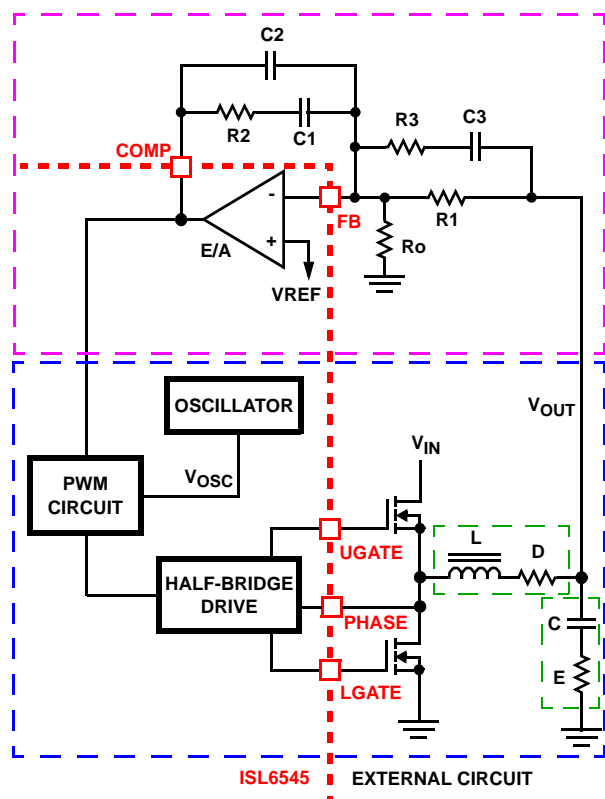

FIGURE 9. VOLTAGE-MODE BUCK CONVERTER COMPENSATION DESIGN
This section highlights the design consideration for a voltage-mode controller requiring external compensation. To address a broad range of applications, a type-3 feedback network is recommended, as shown in the top part of Figure 9.
Figure 9 also highlights the voltage-mode control loop for a synchronous-rectified buck converter, applicable to the ISL6545 circuit. The output voltage ( $V_{OUT}$ ) is regulated to the reference voltage,  $V_{REF}$ . The error amplifier output (COMP pin voltage) is compared with the oscillator (OSC) modified sawtooth wave to provide a pulse-width modulated wave with an amplitude of  $V_{IN}$  at the PHASE node. The PWM wave is smoothed by the output filter (L and C). The output filter capacitor bank's equivalent series resistance is represented by the series resistor E.
The compensation network consists of the error amplifier (internal to the ISL6545) and the external R1-R3, C1-C3 components. The goal of the compensation network is to provide a closed loop transfer function with high OdB crossing frequency ( $F_0$ ; typically 0.1 to 0.3 of  $F_{SW}$ ) and adequate phase margin (better than 45°). Phase margin is the difference between the closed loop phase at  $F_{0dB}$  and 180°. The equations that follow relate the compensation network's poles, zeros and gain to the components (R1, R2, R3, C1, C2, and C3) in Figure 9. Use the following guidelines for locating the poles and zeros of the compensation network:
4. Select a value for R1 (1kΩ to 5kΩ, typically). Calculate value for R2 for desired converter bandwidth ( $F_0$ ). If setting the output voltage via an offset resistor connected to the FB pin,  $R_o$  in Figure 9, the design procedure can be followed as presented.